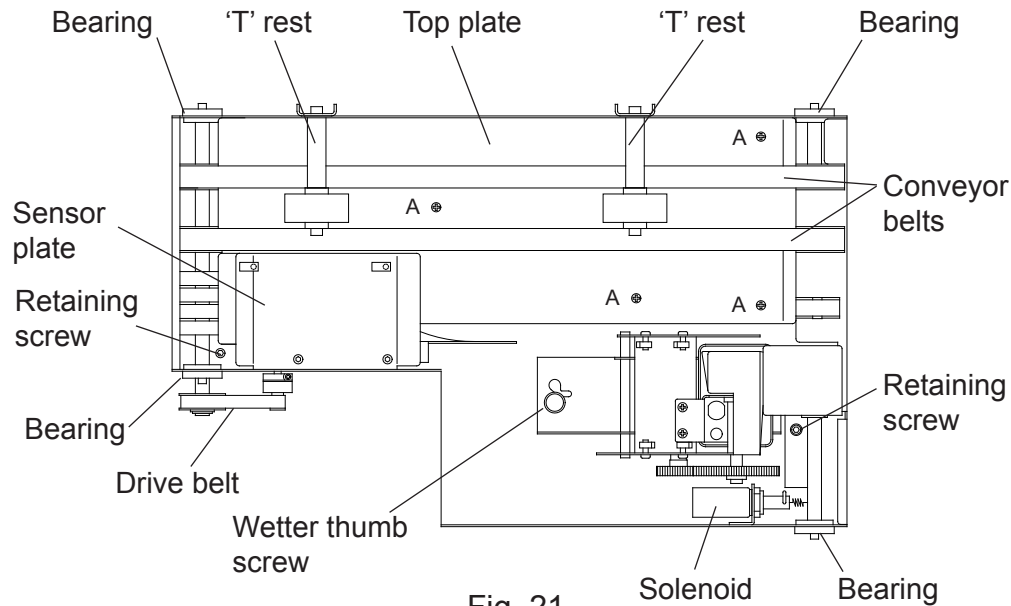

Fig. 21
The wetter/closer is fitted with 2 conveyor belts and 1 drive belt. To replace, refer to Fig. 21 below and proceed as follows:
4. Remove the 2 retaining screws shown in Fig. 21 and slide the whole unit forwards to clear the rear (unseen) spigots. Unplug the ribbon cables and JST connectors at the front edge. Place a rag under the connector of the fluid pipe, press in the latch and separate the connector. Lift out the wetter tank. The unit can now be lifted out of the machine.